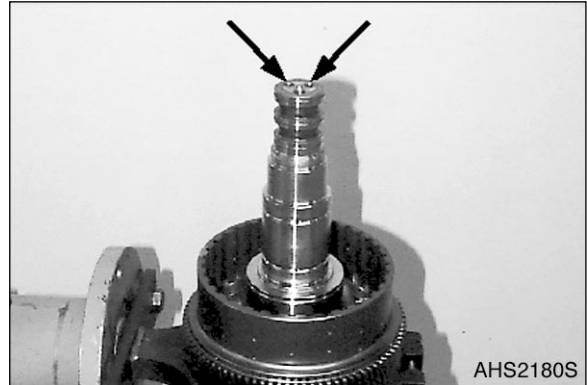

Figure 252
5. Wet both set screws (Figure 252) with Loctite #262 and install them.